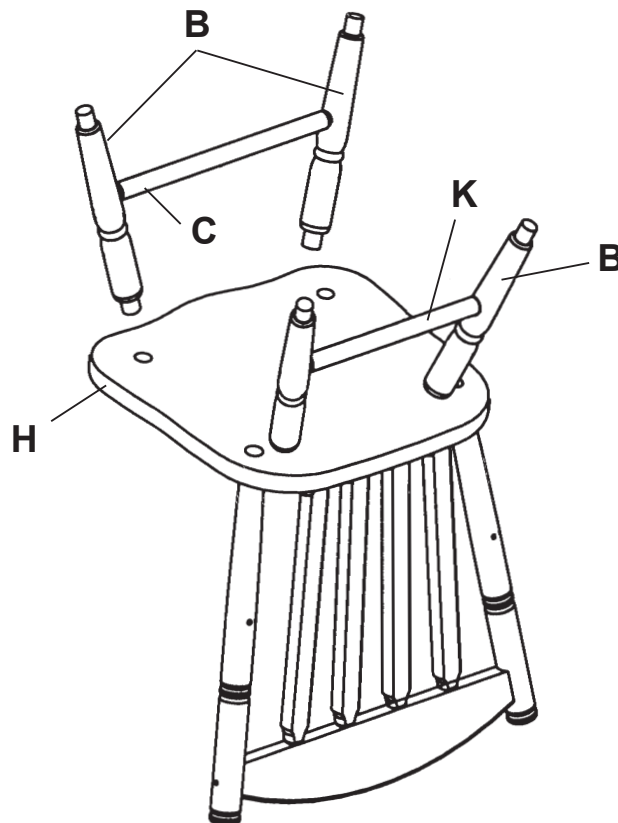

FIG. 4
- 4) With the Seat (H) laying face down on a protected surface, spread glue evenly in the four leg holes in the bottom of the seat and insert the pair of legs with the Long Front Stretcher (C) in the two front holes. The stretchers must face side to side and be on the end farthest from the seat. Repeat for the other pair of legs with the Short Back Stretchers (K). See FIGURE 4.